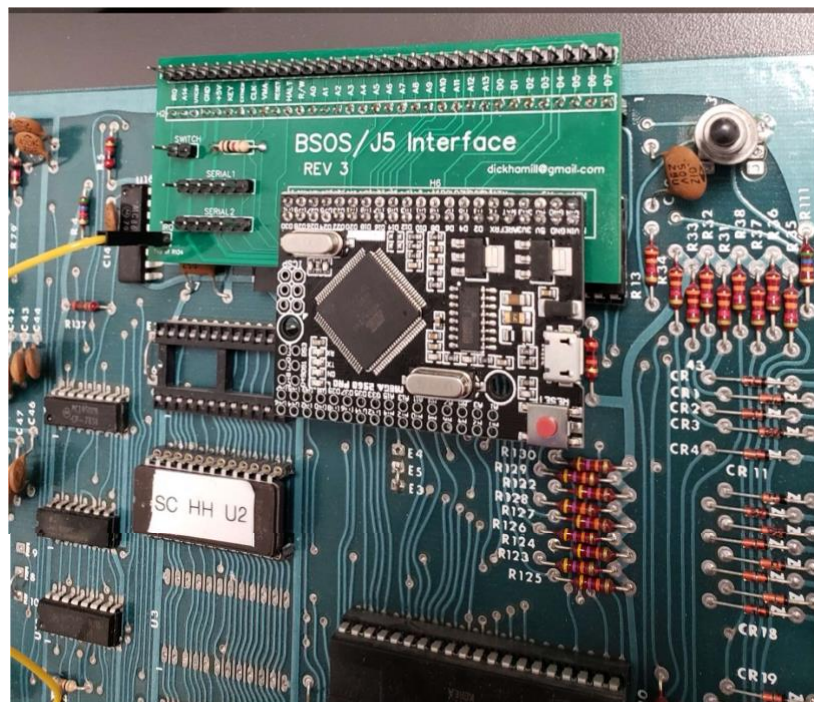

Figure 4
6. Line up pin 1 and carefully install the adapter board onto connector J5. If the connector won't go, don't force it. Verify that pin 1 is lined up, and that there are no bent pins preventing engagement. Push the adapter down onto J5 until it is fully installed. Figure 4 shows an adapter installed on an MPU board.